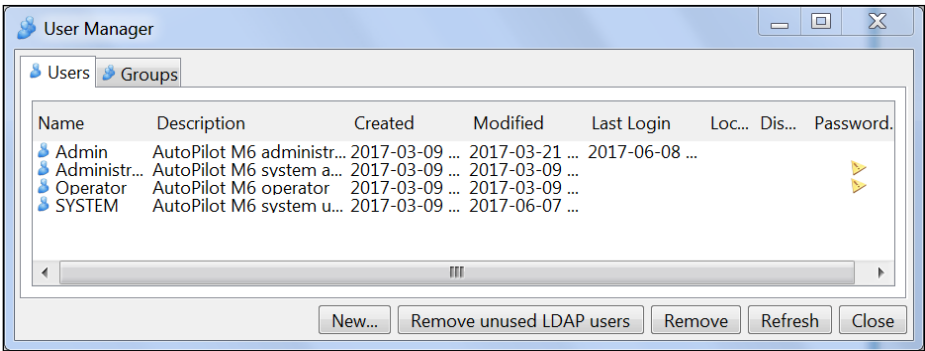

Figure 4-5. User Manager: Users Folder
1. From the *User* folder (Figure 4-5) in the *User Manager* click **New**. The *New User* screen is displayed.